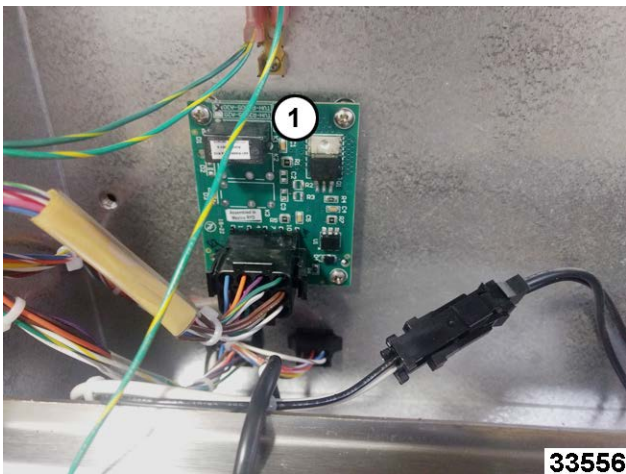

Fig. 2
- Note and disconnect wiring from interface board (1, Fig. 2).